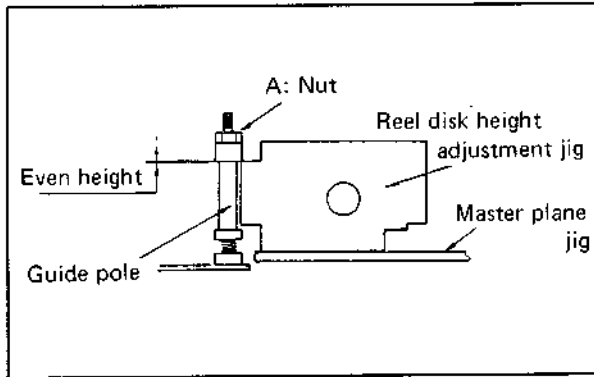

Fig. 4-20
1. Use the reel disk height adjustment jig to check both the take-up and supply guide poles as shown in Fig. 4-20. The bottom of the upper lip of the pole should be even with the upper edge of the jig step shown in the figure.